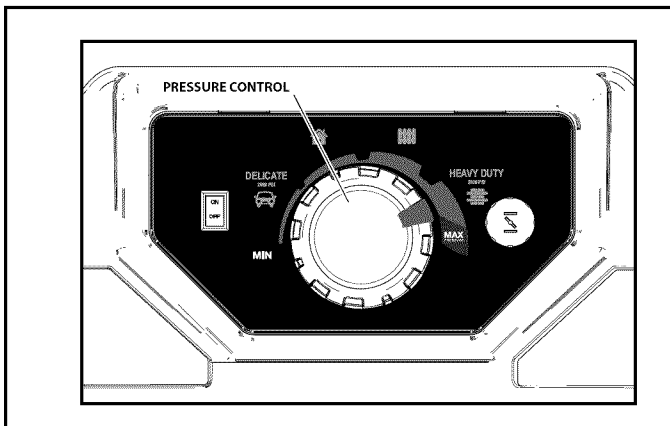

Figure 5-3. Power Dial
2. Rotate pressure control knob to the position shown on “Start” decal (Item #2) (Figure 5-3).